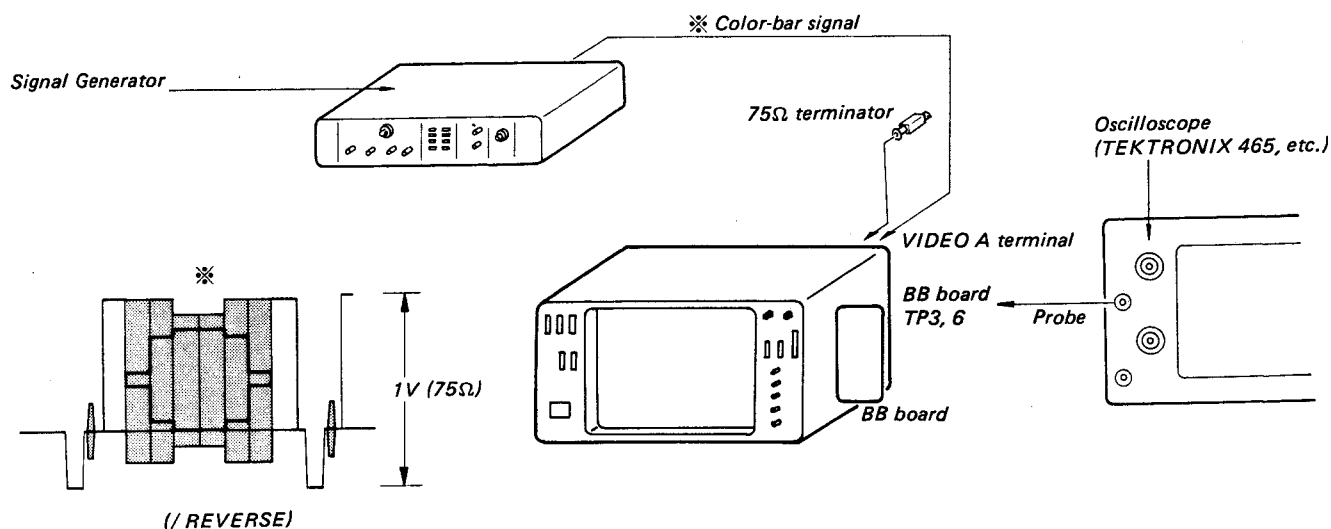

Fig. 5-111
1. Complete the connections as shown in Fig. 5-111. Turn on the power of this monitor. Set the INPUT switch to the A position, and the SYNC switch to the INT position.